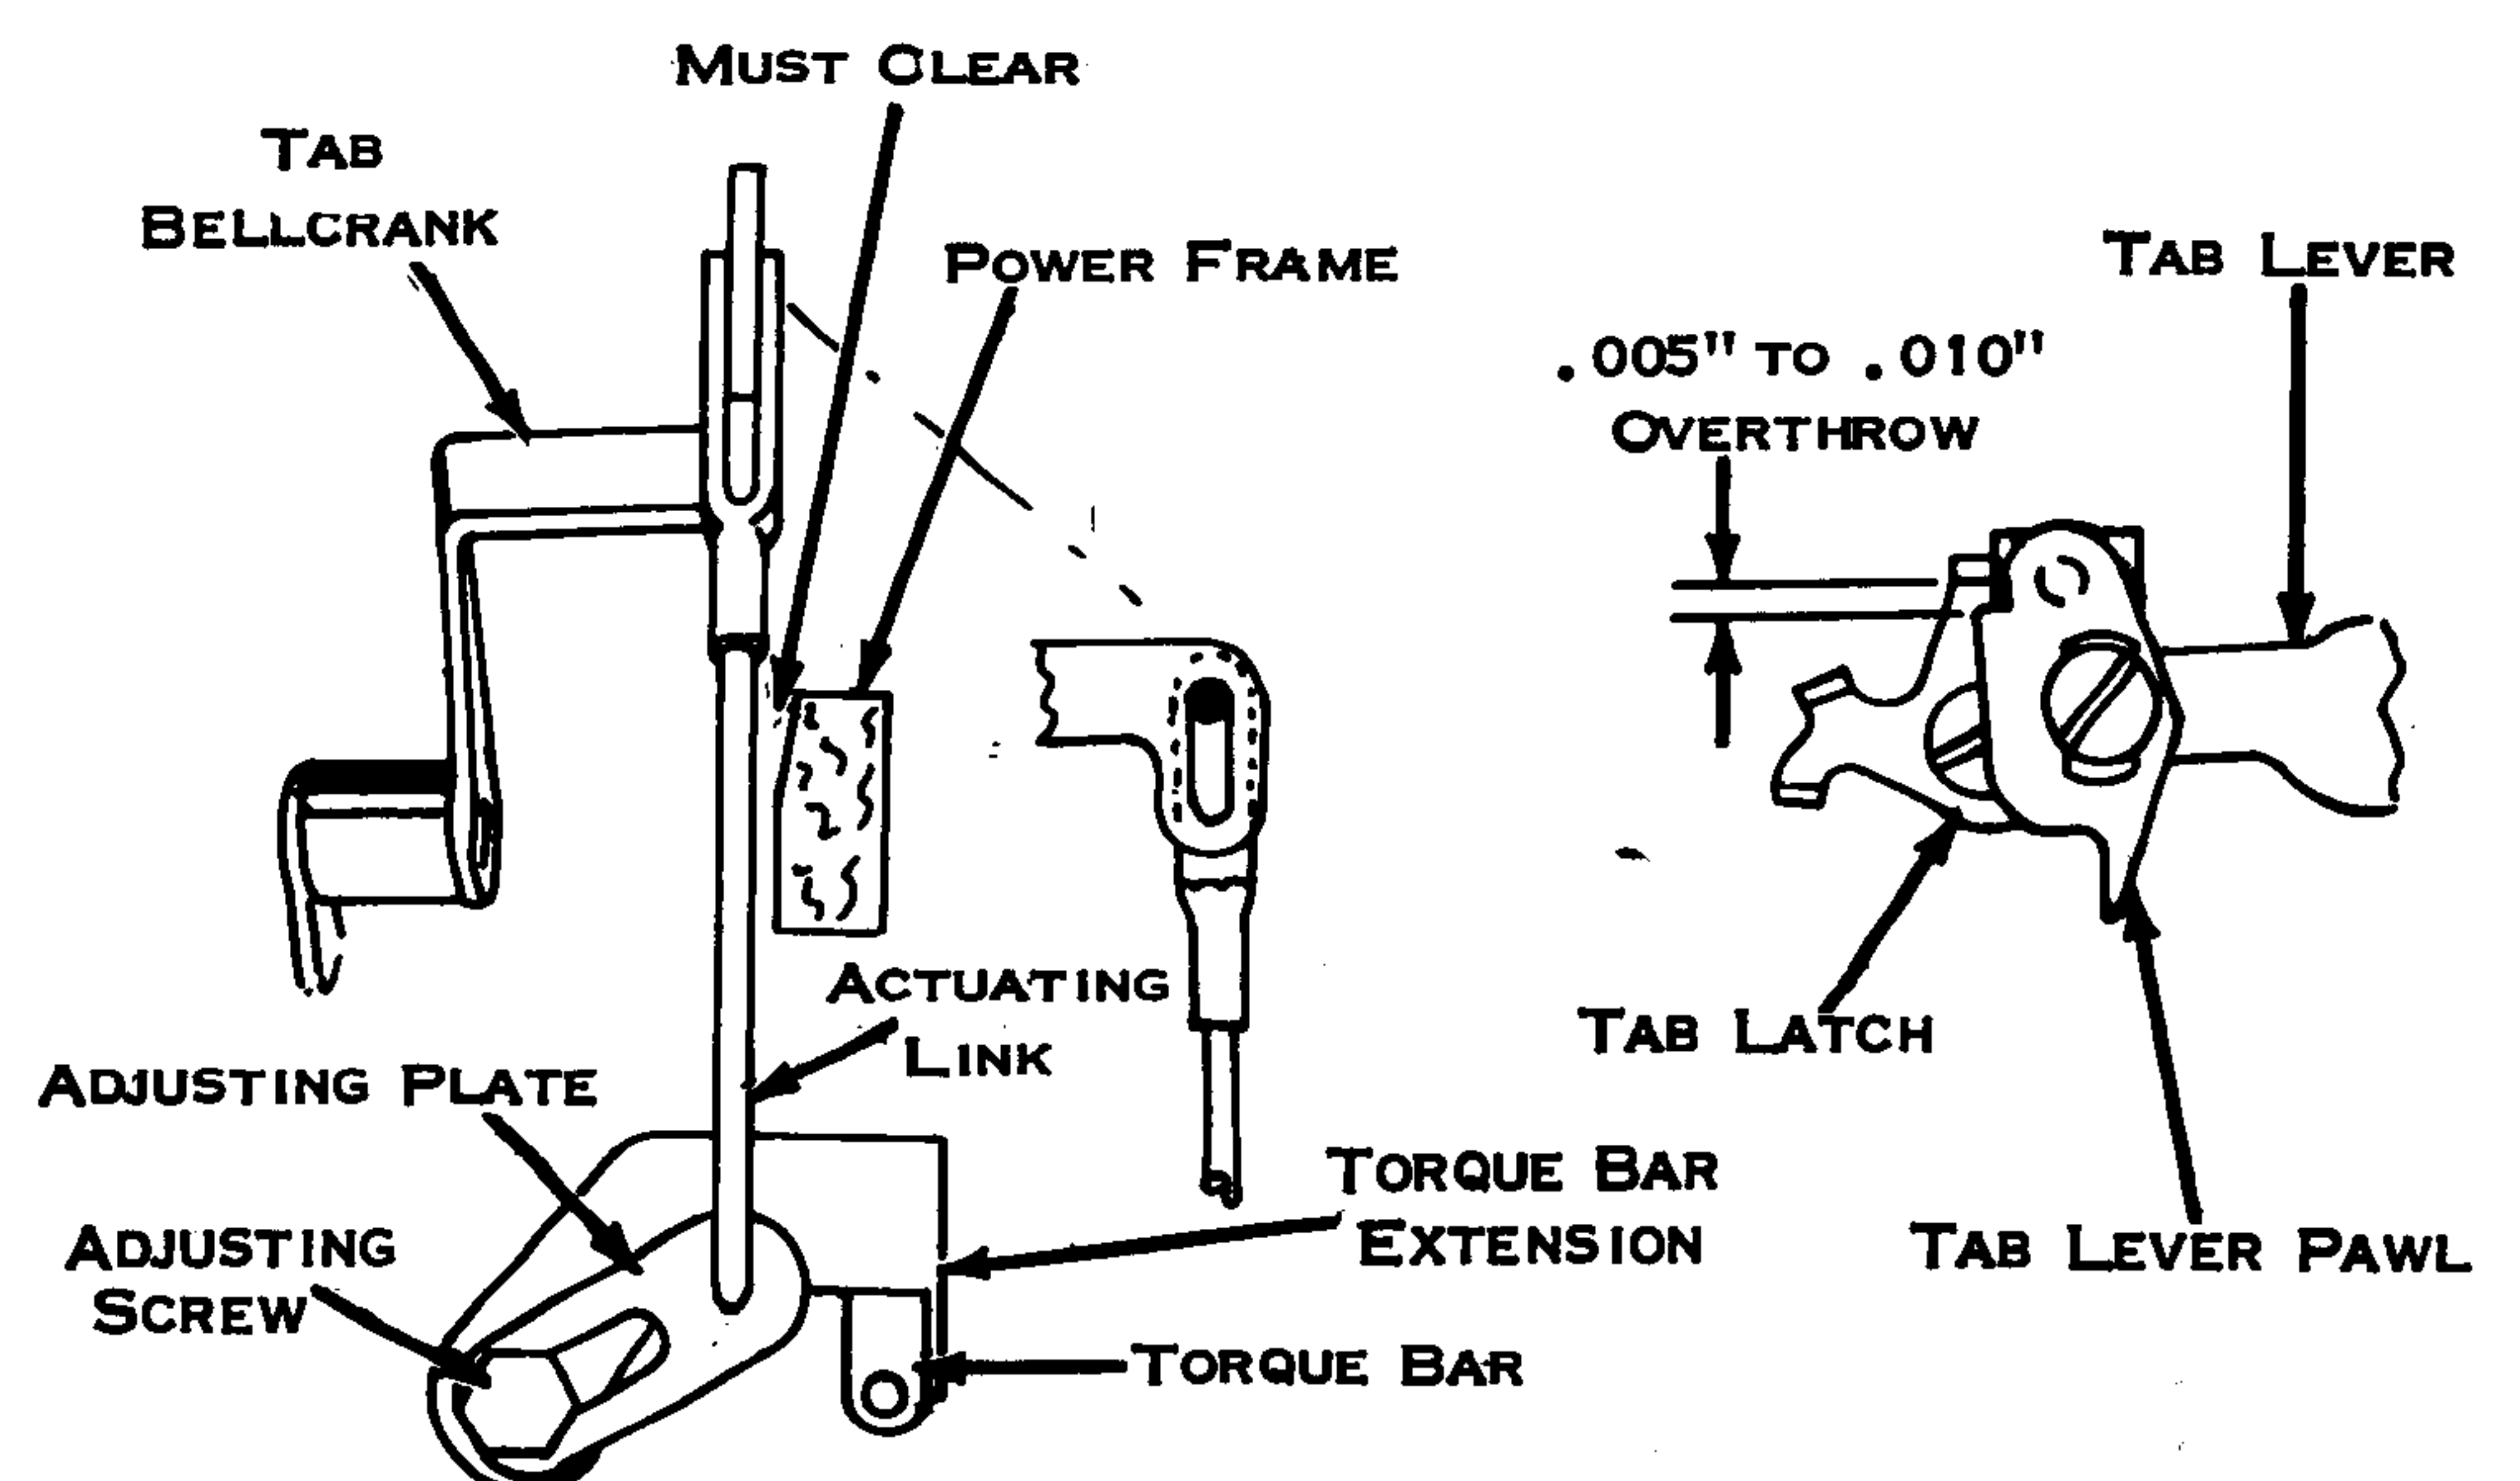

Figure 168. Adjusting Plate, 11 Inch Machine
5. Adjusting plate, 11 inch machine (Fig. 168) - Position as follows: